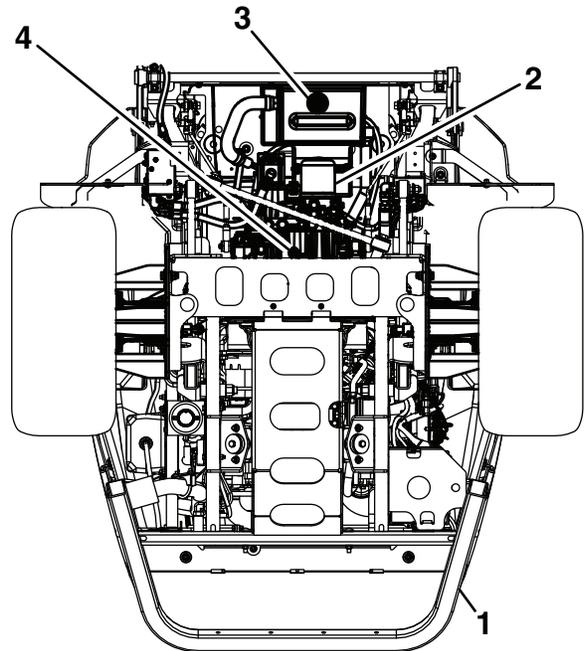

Figure 70
- Place a large drain pan under the hydraulic reservoir and transmission case (Figure 70).